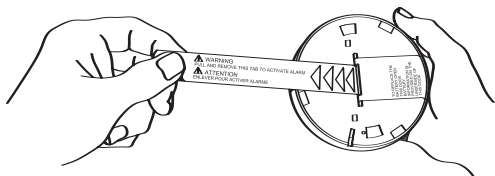

Figure 5. Pull and Remove Tab to Activate Alarm
10.5 The battery is installed inside the battery housing. To activate the alarm, Pull the red tab away from the battery housing. The alarm will beep once indicating it has been activated. See Figure 5.